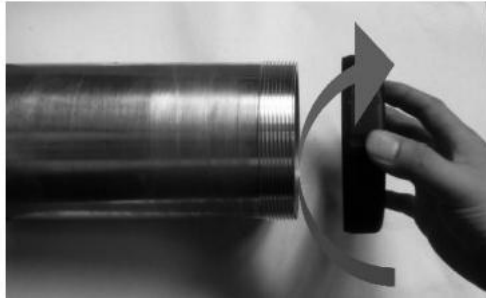

Fig 3
4.1.1 Install or change piling socket retainer, Select a corresponding retainer according to the sizes of the piling of 45mm、55mm、88mm, as it's shown in Fig.3.